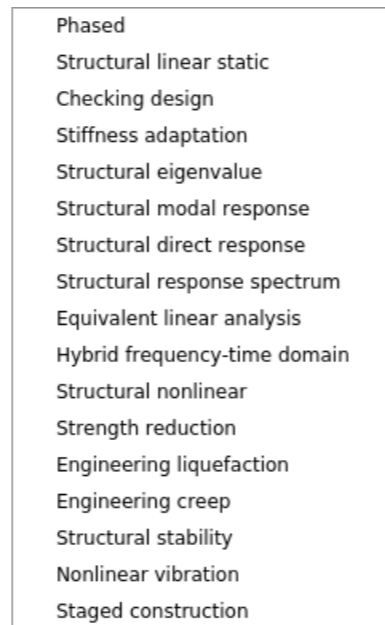
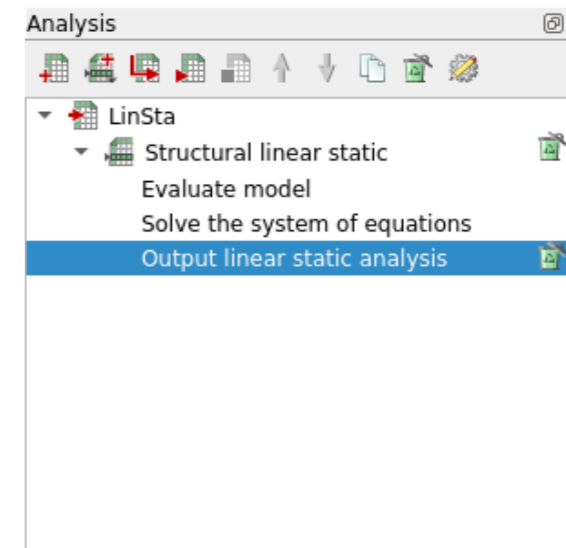

Figure 19: Add command
Figure 20: Analysis tree
- Analysis browser** → LinSta  → Add command  → Structural linear static [Fig. 19] [Fig. 20]